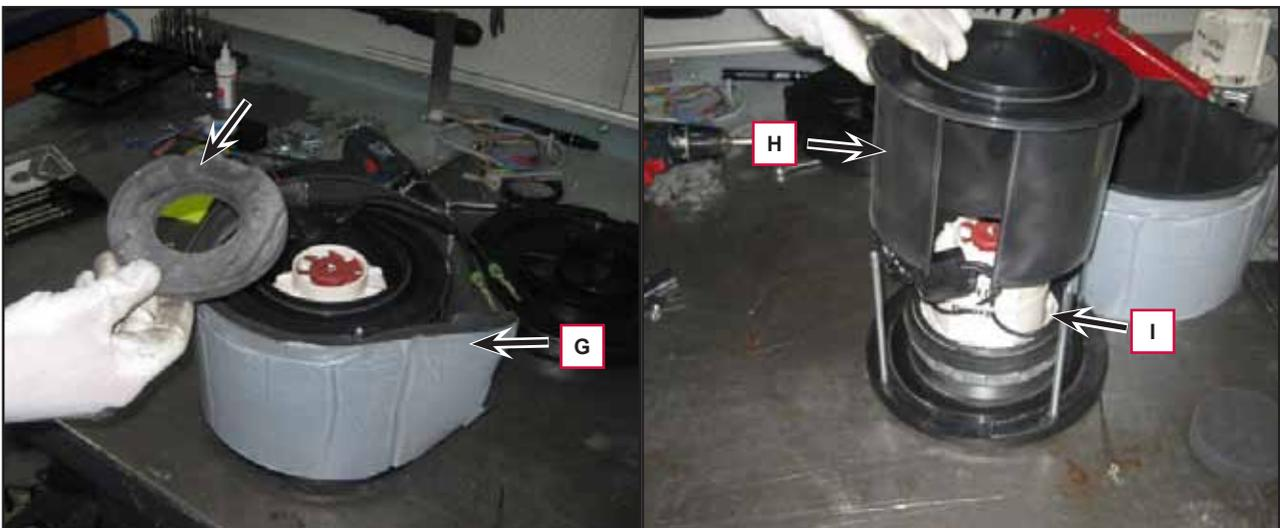

Figure 8
5. Remove the soundproofing (F) (Figure 8) and (G).
6. Remove the protection (H) to reach the vacuum system motor (I).